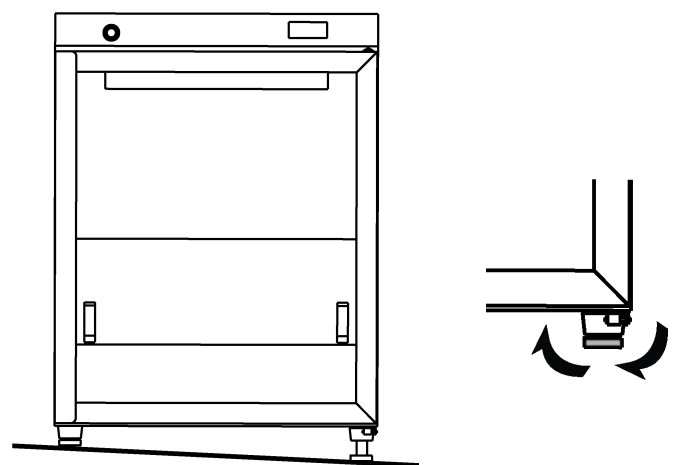

Fig 3.
- 145 Cabinets come with adjustable feet in case of uneven surfaces (**Fig 3**).